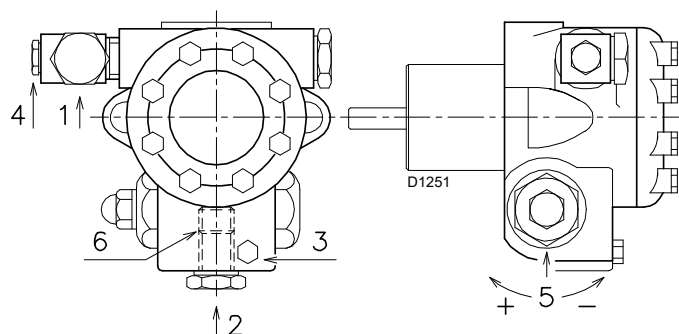
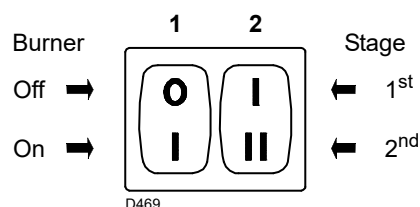

Fig. 17
Fig. 18
For the priming pump loosen the screw 3)(Fig. 17) in order to bleed off the air contained in the suction line and wait until the fuel flows out.
The pumps are equipped with a by-pass that connects return line with suction line. The pumps are installed on the burner with the by-pass closed by screw 6)(Fig. 17).
- For self-priming to take place, one of the screws 3)(Fig. 17) of the pump, must be loosened in order to bleed off the air contained in the suction line.
- Start the burner by closing the control devices, with switch 1)(Fig. 18) in the "ON" position. The pump must rotate in the direction of the arrow marked on the cover.
- The pump can be considered to be primed when the gas oil starts coming out of the screw 3)(Fig. 17). Stop the burner: switch 1)(Fig. 18) set to "OFF" and tighten the screw 3).